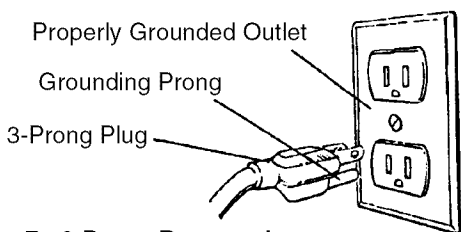

Figure 7 - 3-Prong Receptacle
- This tool is equipped with an approved cord rated at 150V and a 3-prong grounding type plug (see Figure 7) for your protection against shock hazards.
- Grounding plug should be plugged directly into a properly installed and grounded 3-prong grounding-type receptacle, as shown (see Figure 7).